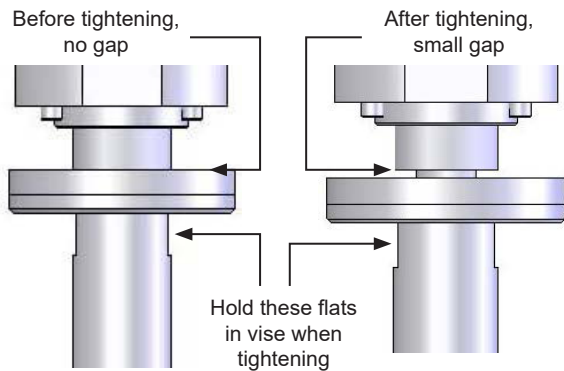

Figure 38. Appearance of components after tightening
4. Hold machined flats of ROD EXTENSION (C) in vise. Tighten faces of ROD EXTENSION (C) and ROD FLANGE (A) against each other by applying torque to ROD FLANGE (A) clockwise. After tightening there will be a small gap between the CYLINDER ROD (B) face and ROD FLANGE (A) as shown in Figure 38.